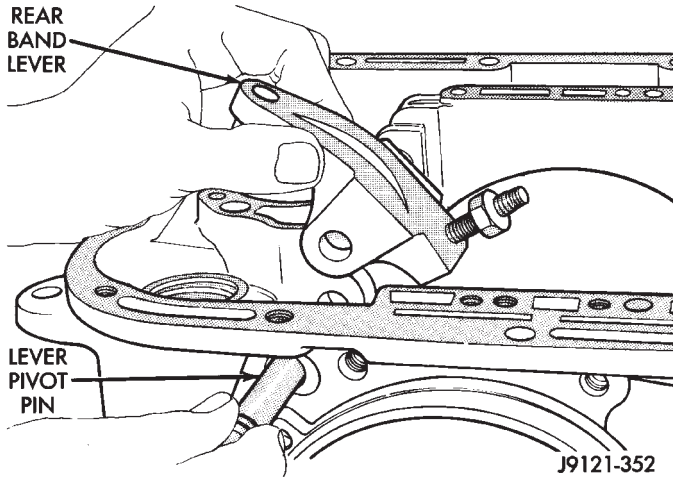

Fig. 110 Rear Band Lever And Pivot Pin Installation
(8) Install rear band lever and pivot pin (Fig. 110). Align lever with pin bores in case and push pivot pin into place.